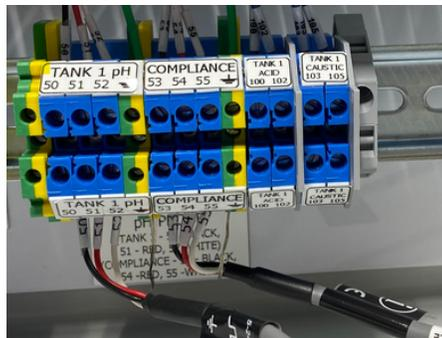

Figure 3
4.3. Connect Metering Pumps (Figure 3)